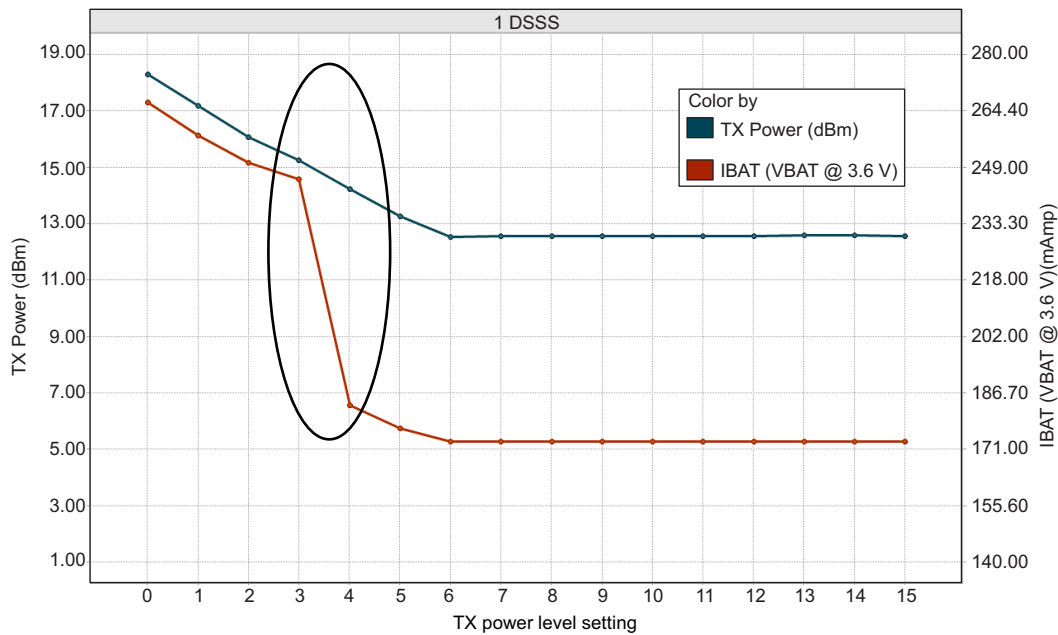
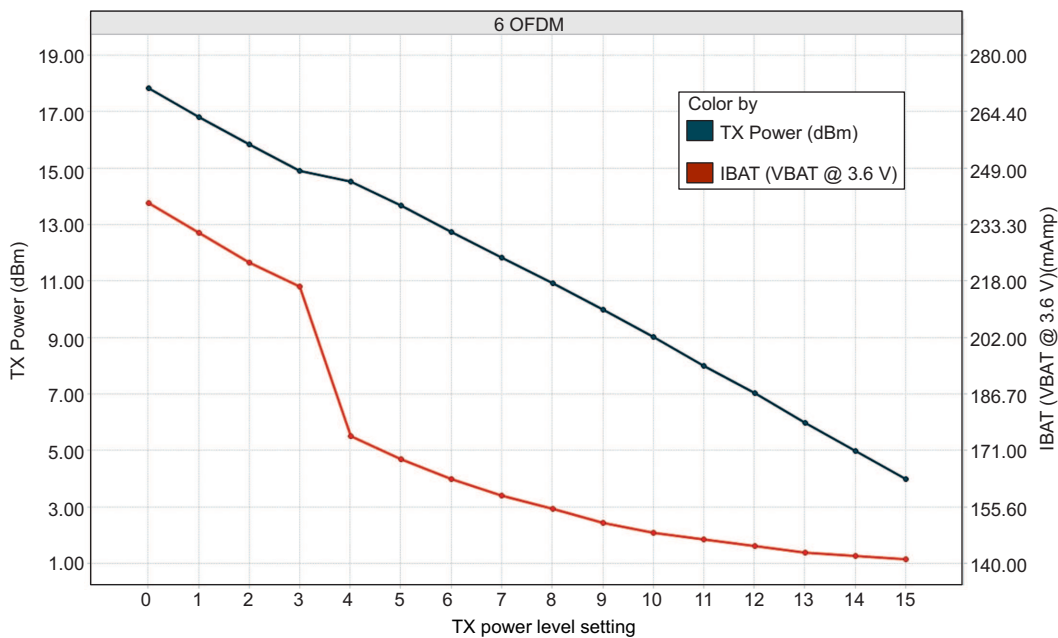
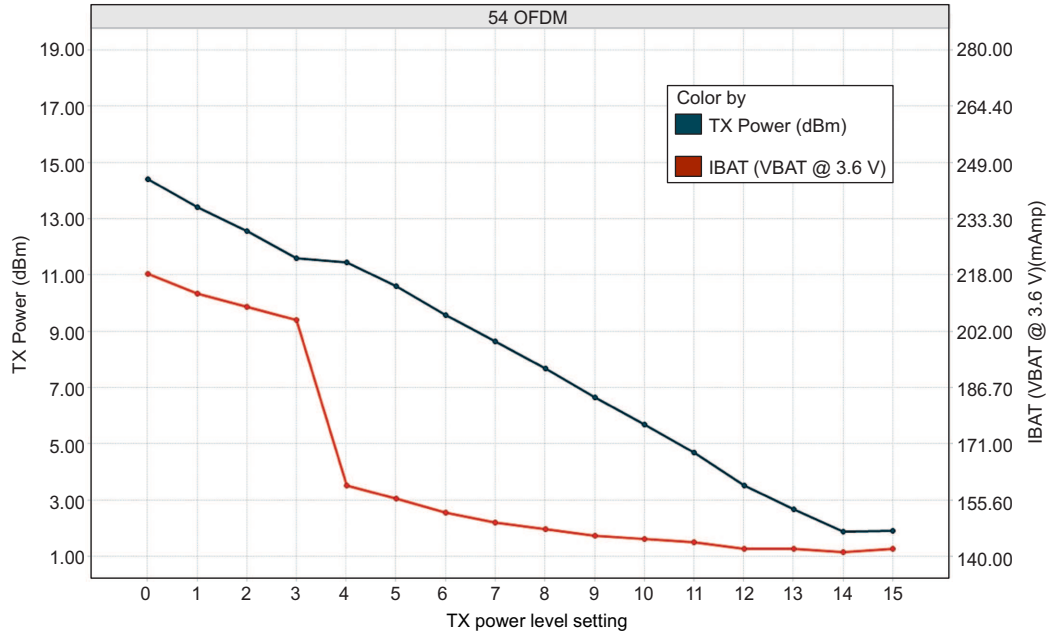

Figure 5-1. TX Power and IBAT vs TX Power Level Settings (1 DSSS)
Figure 5-2. TX Power and IBAT vs TX Power Level Settings (6 OFDM)
Figure 5-3. TX Power and IBAT vs TX Power Level Settings (54 OFDM)
- (1) TX power level = 0 implies maximum power (see Figure 5-1, Figure 5-2, and Figure 5-3). TX power level = 4 implies output power backed off approximately 4 dB.
- (2) CC3220MODx and CC3220MODAx are constant, power-source systems. The active current numbers scale based on the  $V_{BAT}$  voltage supplied.
- (3) The RX current is measured with a 1-Mbps throughput rate.
- (4) DTIM = 1
- (5) The LPDS number of reported is with retention of 256KB of MCU SRAM. The CC3220MODx and CC3220MODAx modules can be configured to retain 0KB, 64KB, 128KB, 192KB, or 256KB of SRAM in LPDS. Each 64-KB block of MCU retained SRAM increases LPDS current by 4  $\mu\text{A}$ .
- (6) The complete calibration can take up to 17 mJ of energy from the battery over a time of 24 ms. In default mode, calibration is performed sparingly, and typically occurs when re-enabling the NWP and when the temperature has changed by more than 20°C. There are two additional calibration modes that may be used to reduced or completely eliminate the calibration event. For further details, see CC3x20 SimpleLink™ Wi-Fi® and Internet of Things Network Processor Programmer's Guide.
- (2) CC3220MODx and CC3220MODAx are constant, power-source systems. The active current numbers scale based on the VBAT voltage supplied.
- (5) The LPDS number of reported is with retention of 256KB of MCU SRAM. The CC3220MODx and CC3220MODAx modules can be configured to retain 0KB, 64KB, 128KB, 192KB, or 256KB of SRAM in LPDS. Each 64-KB block of MCU retained SRAM increases LPDS current by 4 µA.
Figure 5-1, Figure 5-2, and Figure 5-3 show TX Power and IBAT versus TX power level settings for the CC3220MODS module at modulations of 1 DSSS, 6 OFDM, and 54 OFDM, respectively. For the CC3220MODSF module, the IBAT current has an increase of approximately 10 mA to 15 mA depending on the transmitted rate. The TX power level will remain the same.
In Figure 5-1, the area enclosed in the circle represents a significant reduction in current during transition from TX power level 3 to level 4. In the case of lower range requirements (14-dBm output power), TI recommends using TX power level 4 to reduce the current.